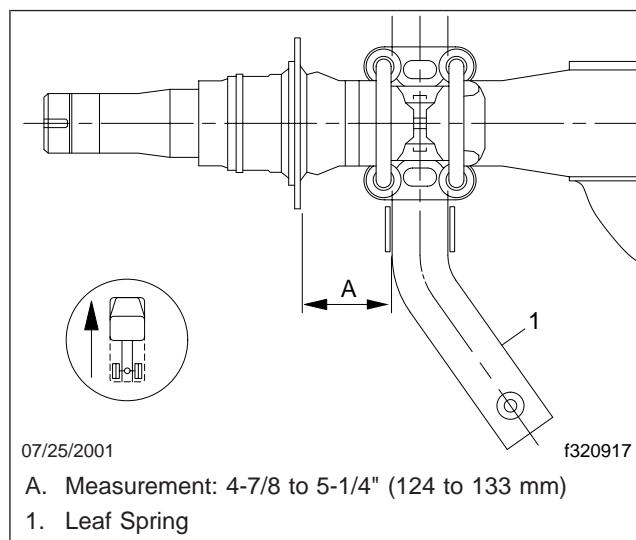

Fig. 6, Axle Clamp/Axle Alignment Measurement
7. Check that the axle clamps are correctly aligned on the axle housing and not shifted inboard or outboard. See **Fig. 6**. The distance from the brake spider flange to the outside surface of the leaf spring should be 4-7/8 to 5-1/4 inches (124 to 133 mm). The upper axle clamps should align with the dowels on the top surface of the axle housing.